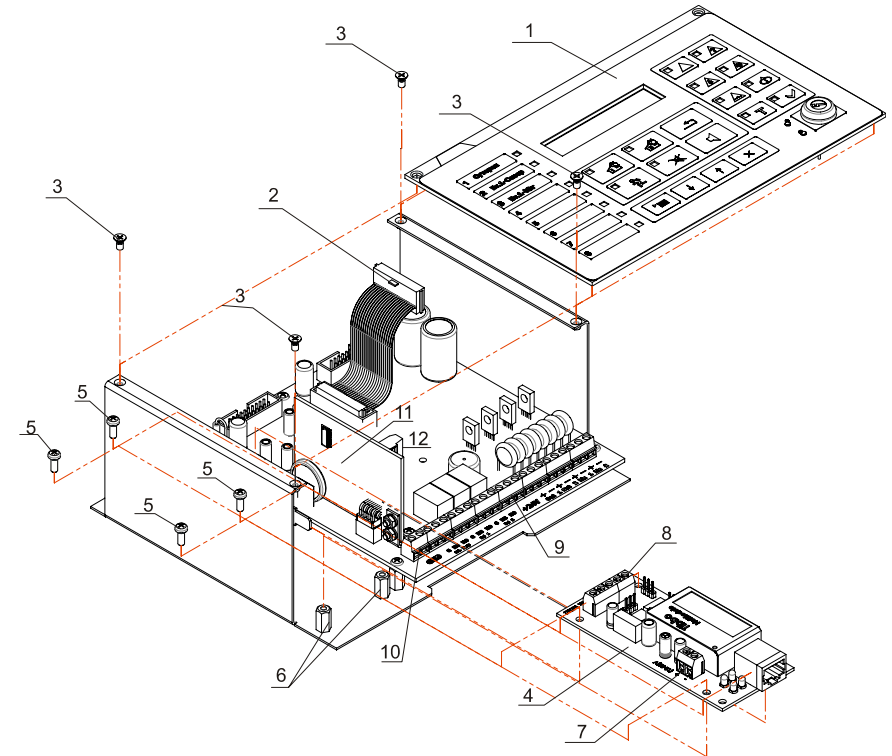

Fig.5
2.2.1.3. Dismount the front site of the panel (pos.1, fig.5) by unscrewing the four screws (pos.3, fig.5).
2.2.1.4. Release the coupling of the ribbon cable (see position 2, Fig.5) from the front panel.
2.2.1.5. Use screws (pos.5, fig.5), to mount the LAN module (pos.4, fig.5) on the 4 remote sleeves (pos.6, fig.5).
2.2.1.6. Join the power supply of the module (pos.7, fig.5) to terminals "+24V" and "GND" (pos9, pos.10, fig.5) of the Control Panel.
2.2.1.7. On two-wire line connect terminals A and B, the LAN module (pos.8, fig.5), with terminals A and B of Module RS232/485 (pos.11, Fig.5) of the Control Panel.